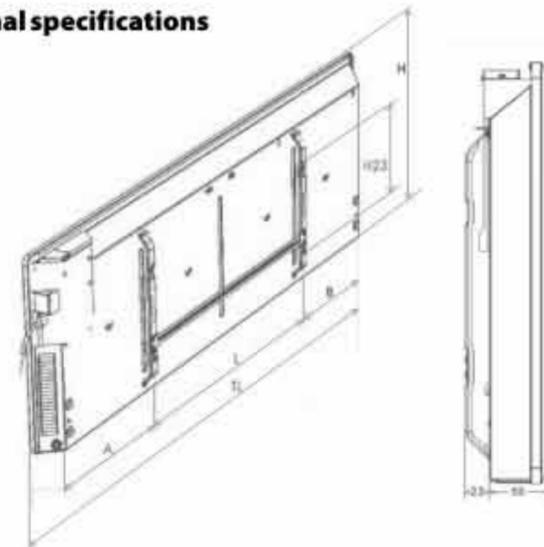

Fig. 2
Overall dimensions of the convector as per Fig.2 are given in Table 2.
3. In accordance with Fig. 2, 4 and table 2, determine the place of convectector's installation observing minimum distances from objects and minimum distance from the floor.